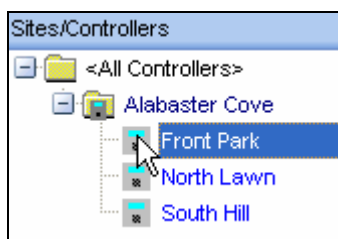

Figure 28.0.3
2. Next click on a controller from your controller list to highlight it (Figure 28.0.3).